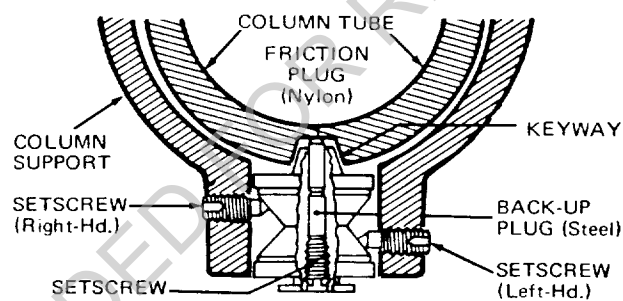

Figure 44
NOTE: Before attempting to adjust the column tube key, the function of this adjustment should be understood. Figure 44 shows a sectional view through the column tube support (looking downward) at the column tube key location. By loosening the left-hand setscrew and tightening the right-hand setscrew the column tube key will be forced tighter into the column tube keyway. Conversely, loosening the right-hand setscrew and tightening the left-hand setscrew will retract the column key
b. Adjusting Column Tube Key (Figure 44)
- (1) Loosen the setscrew located in the center of the column tube key (figure 44).
- (2) Loosen the left-hand setscrew 1/4 turn.
- (3) Tighten the right-hand setscrew.
- (4) Tighten the left-hand setscrew.
- (5) Rotate the elevation crank to raise and lower the radial arm. If too tight, loosen the right-hand setscrew slightly, and check again for smooth operation. When correct, tighten the left-hand setscrew.
- (6) Tighten the setscrew located in the center of the column tube key until smoothest operation is obtained.